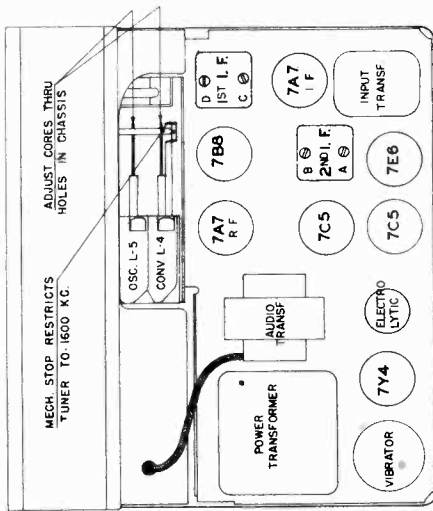

Fig. 9. Top View of Chassis
10. Adjust oscillator core L5 (Figure 9) to scale at 1200 Kc.
11. Adjust antenna, R.F. and converter cores (Figures 9 and 10) for maximum output reading.
4. Adjust I.F. trimmers A, B, C and D (Fig. 9) in the order named for maximum output. Repeat the operation to assure accurate alignment.